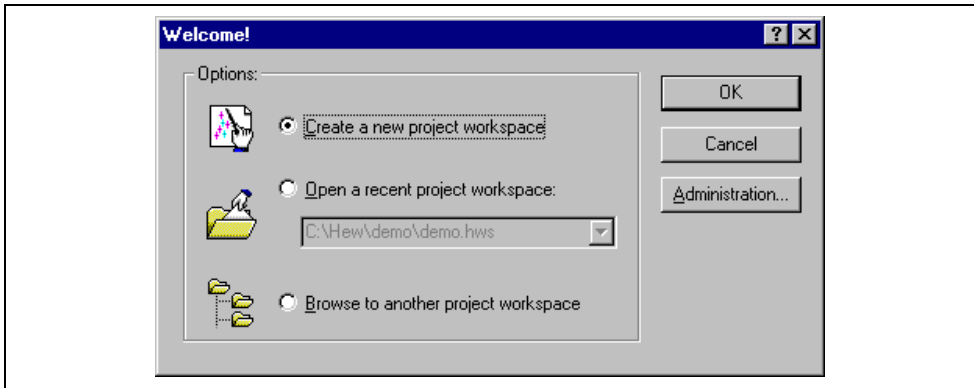
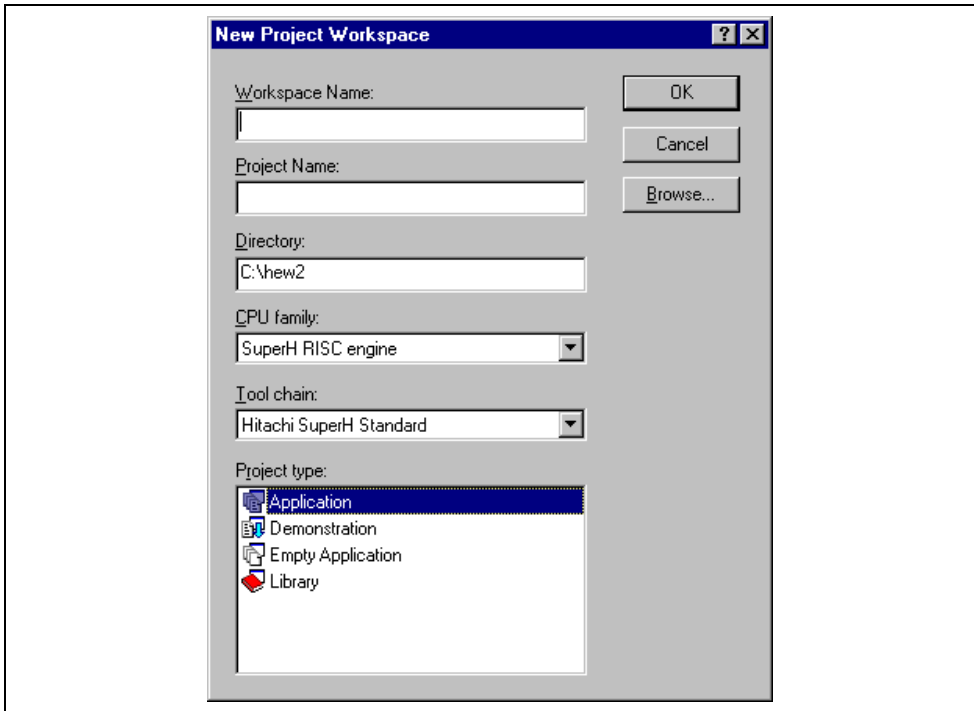

Figure 1.6: Welcome! Dialog
Figure 1.7: New Project Workspace Dialog
To run the HEW, open the “Start” menu of Windows®, select “Programs”, select “Hitachi Embedded Workshop 2” and then select the shortcut of the Hitachi Embedded Workshop. By default, the “Welcome!” dialog shown in figure 1.6 will be displayed.
1. Select the “Create a new project workspace” option from the “Welcome!” dialog (figure 1.6) and press “OK” or select [**File->New Workspace...**]. The “New Project Workspace” dialog will be displayed (figure 1.7).
1. Select “Browse to another project workspace” option from the “Welcome!” dialog (figure 1.6) and press “OK” or select **[File->Open Workspace...]**. The “Open Project Workspace” dialog will be invoked.